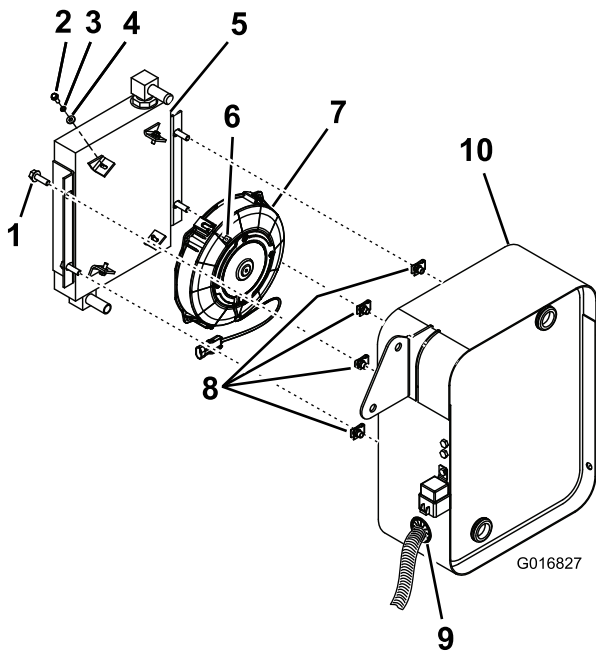

Figure 5
1. If the fan and oil cooler are not assembled, install the fan onto the oil cooler with 4 screws, 4 lock washers, 4 flat washers, and 4 square nuts as shown in (Figure 5).
2. Slip 4 Tinnerman nuts onto the oil cooler support as shown in Figure 5.
4. Slip a hose clamp over the end of each of the 2 hoses that protrude through the back of the oil cooler support, and insert the 2 barbed fittings (90-degree) into the 2 hoses (Figure 5).
6. Secure the fan and oil cooler assembly to the oil cooler support with 4 bolts (5/16 x 1 inch) through the side flanges of the oil cooler and 4 Tinnerman nuts on the oil cooler support (Figure 5).